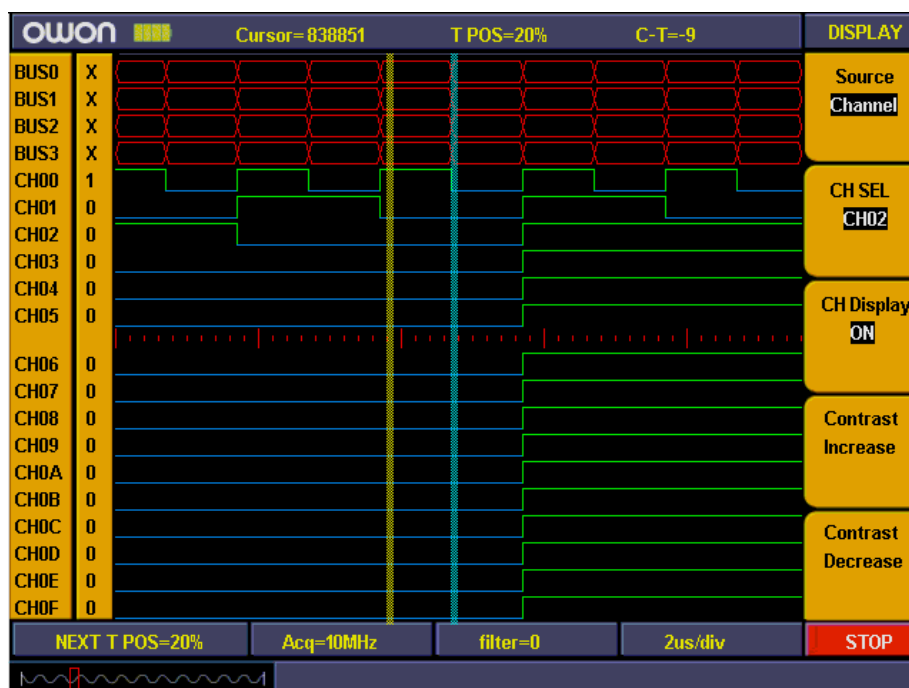

Fig.13
4. Press “**F3**” and set the signal sources as “**ON**”. Repeat operation of steps 3.4 and set CH01, CH02 as “**ON**” and CH03-CH0F as “**OFF**”. Refer to fig. 13